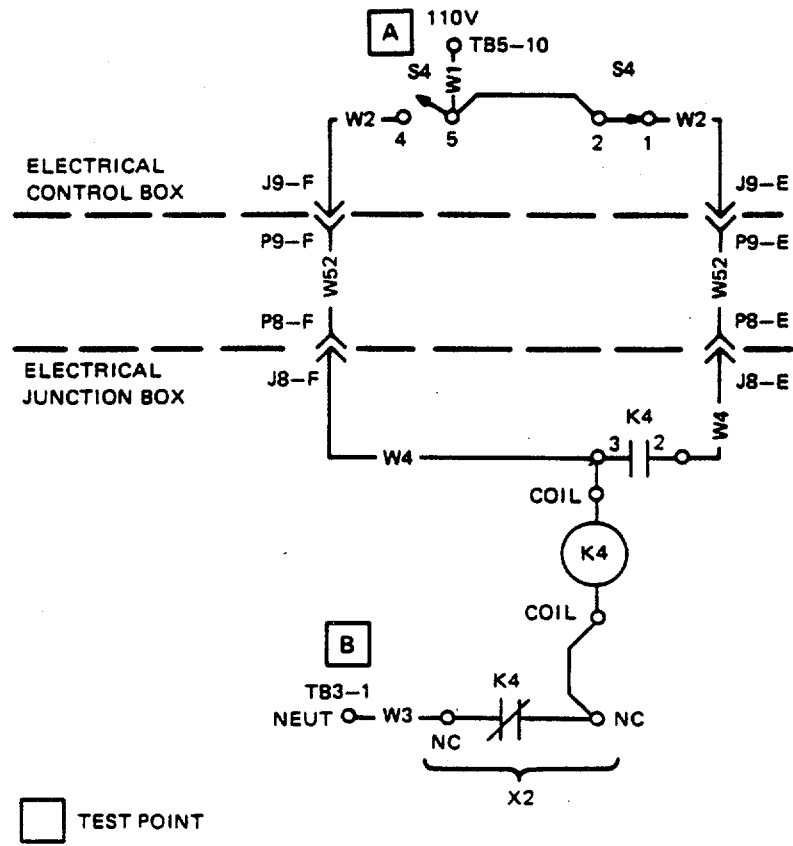

Figure 3-11. Raw Water Pump No. 2 Assembly Support Diagram
Ensure that all circuit breakers are set. Refer to figure FO-3 for schematic diagram and figure FO-4 for interconnection diagram. Refer to figure 3-1 for control box support diagram, figure 3-2 for junction box support diagram, and figure 3-11 for raw water pump no. 2 support diagram.
Step 3. Shut down ROWPU. Refer to TM 10-4610-239-10. Shut down power. Refer to generator manual. Refer to raw water pump no. 2 assembly support diagram figure 3-11. Hold RAW WATER PUMPS NO. 2 switch in START position. Check continuity point-to-point between test points A and B through S4-5 and S4-4.
Step 4. Shut down ROWPU. Refer to TM 10-4610-239-10. Shut down power. Refer to generator manual. Refer to raw water pump no. 2 assembly support diagram figure 3-11. Hold RAW WATER PUMPS NO. 2 switch in START position. Check continuity point-to-point between test points A and B through S4-2 and S4-1.